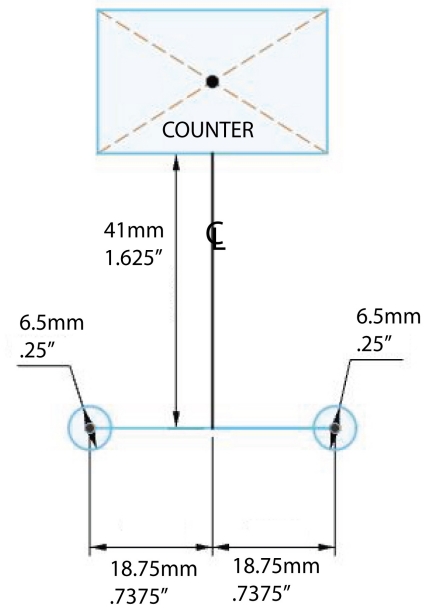

fig 3
- 4) Two holes are to be drilled in the lid of the box as per the drawing (fig 3).